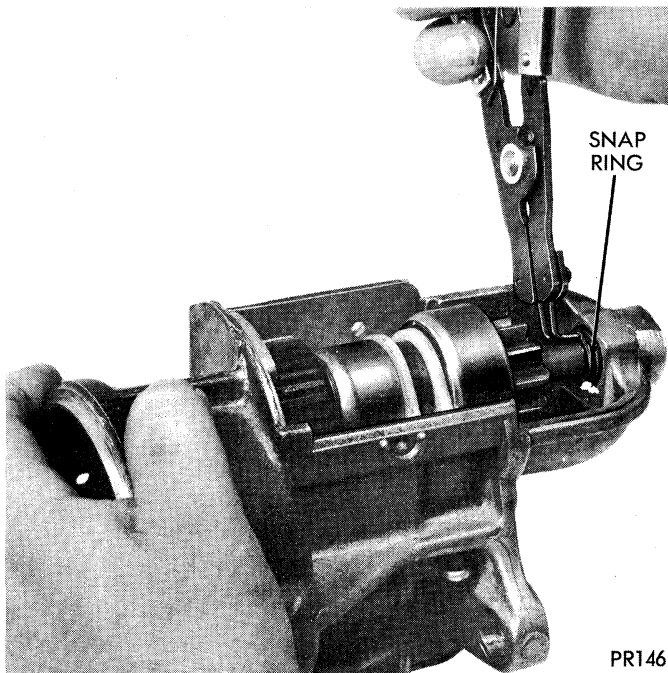

Fig. 20—Removing Pinion Shaft Snap Ring
- (17) Remove pinion shaft "C" clip, (Fig. 20).
(7) Install pinion shaft "C" clip (Fig. 20).
(8) Install starter solenoid return spring into bore of movable core.